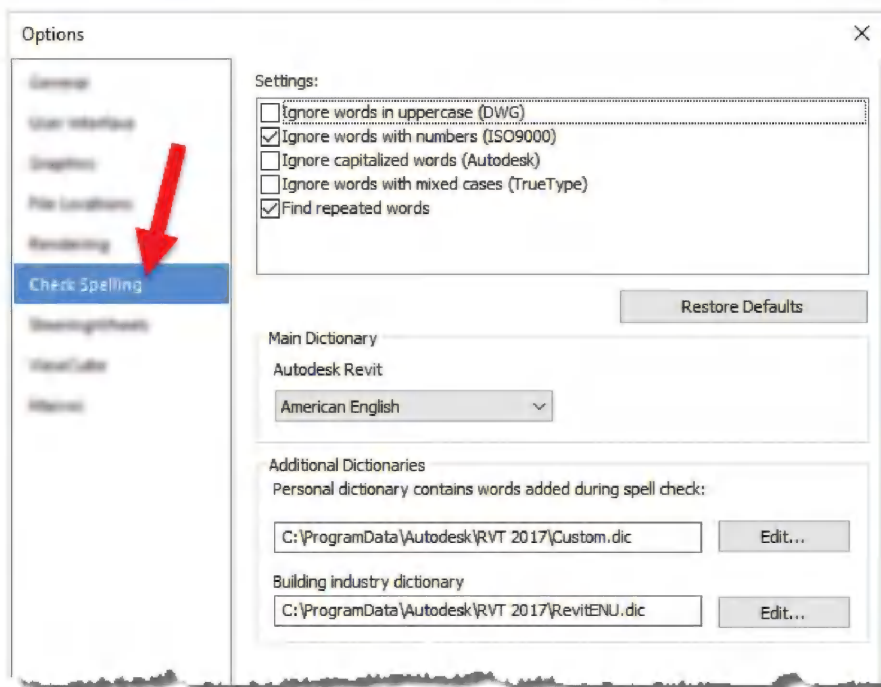

FIGURE 9-1.19 Check Spelling in Options dialog
- **Right-click** (Fig. 9-1.19)